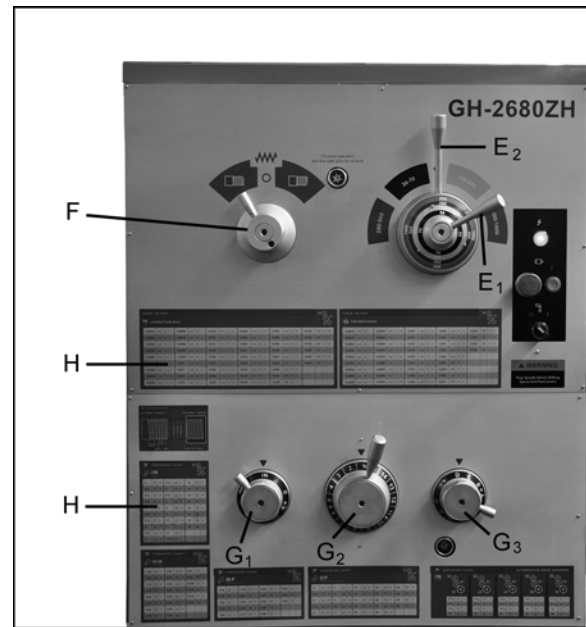

Figure 31
Twelve speeds are available by placing the first speed lever (E₁, Figure 31) in one of four positions, and placing second lever (E₂) in a position that matches the color for the range you desire. These selections are identified on the lever hub, as well as in Table 6, section 16.3.
1. Refer to the *Feed and Thread Chart* on the front of the headstock (H, Figure 31). The chart is also shown in section 16.10 of this manual.
3. Move levers (G₁,G₂,G₃, Figure 31) to the appropriate position according to the Feed and Thread Chart.
1. Move **thread selection lever** (F, Figure 31) to desired direction, for right-hand or left-hand threads. *NOTE: The overrunning clutch in the apron will prevent the tool post from feeding for left-hand threads. It will only feed when right-hand threads are being cut.*
2. Set **speed levers** (E₁, E₂, Figure 31) to desired speed. Use the lowest speed possible when threading.
3. Select desired thread using **thread pitch levers** (G₁, G₂, G₃, Figure 31) in conjunction with the charts on the headstock. These charts are also included in section 16.10 of this manual.
NOTE: When a special thread must be cut that is not found on the chart, move thread change control lever (G₁, Figure 31) to $\overline{\text{III}}$ position, and lever (G₃) to **IV**, then reset the change gears.